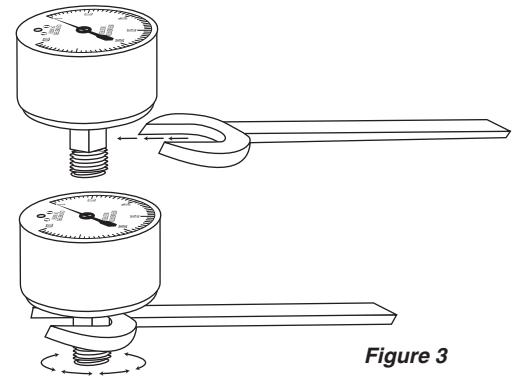

Figure 3
3. Place a wrench on the square fitting next to the gauge case to finish tightening. (Figure 3)